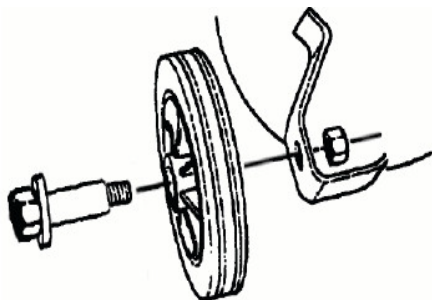

Fig. 3: Wheel assembly
Step 1: If necessary, first install the wheels and / or anti-vibration elements (Fig. 3).